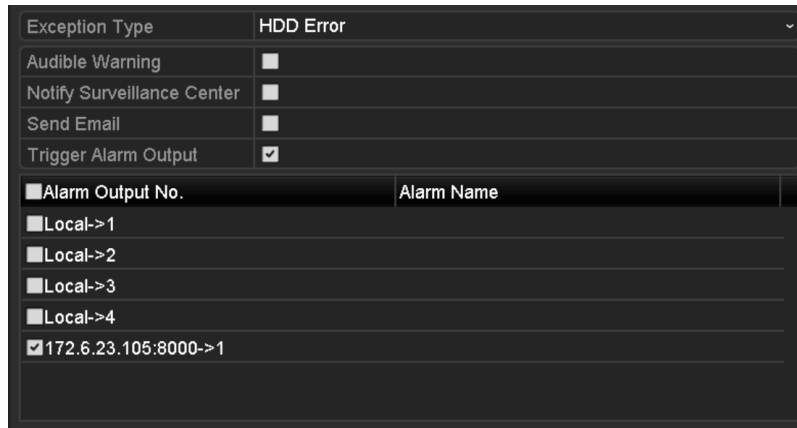

Figure 10-10 Configure HDD Error Alarm
Step 3 Click the checkbox(s) below to select the HDD error alarm type (s), as shown in Figure 10-10.